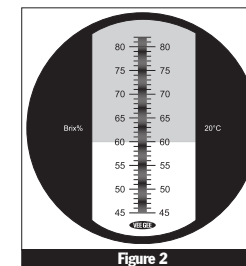
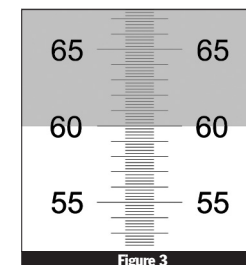

Figure 2
Figure 3
- 5 When the refractometer scale is viewed through the eyepiece, the upper field of view will be seen as blue and the lower field will be seen as white (Figure 2). Confirm that the boundary line crosses the scale at "60" (or the value of the liquid standard being used) (Figure 3).